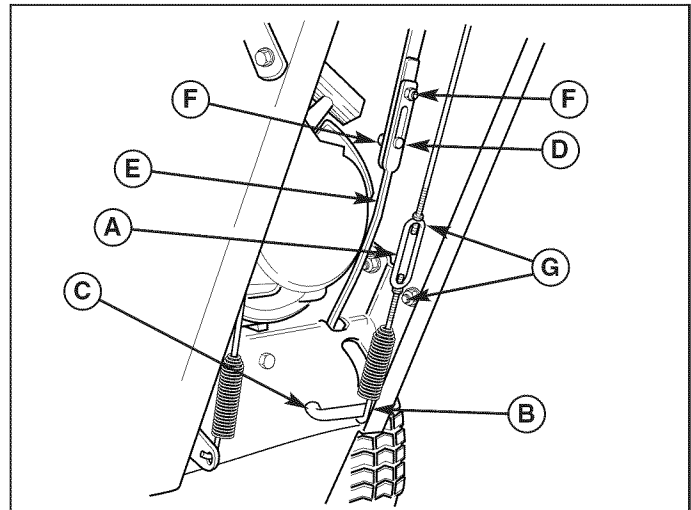

Figure 18. Speed Selector and Auger Drive Linkages
1. Loosen the two nuts (F, Figure 18).
3. Push the lower rod into the housing and tighten the two nuts. Do not lift up or down on rods while tightening. Make sure the shoulders of the carriage bolts (D) are in the slots.
1. With the drive lever released, the hook (B, Figure 18) should barely touch the lever (C) without raising it. There can be a maximum 1/32" clearance as shown.
2. To adjust, loosen the two nuts (G) and hold the lower rod to keep from rotating. Turn the turnbuckle toward the right to lower the spring, or toward the left to raise the spring.